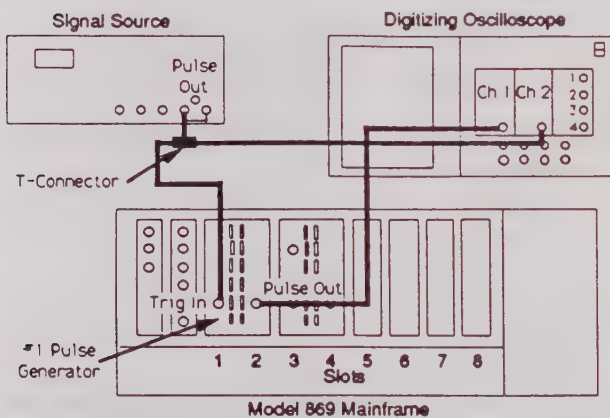

Figure 2-10. Triggered Mode (min) Hookup
1. Interconnect the required test equipment as shown in figure 2-10.